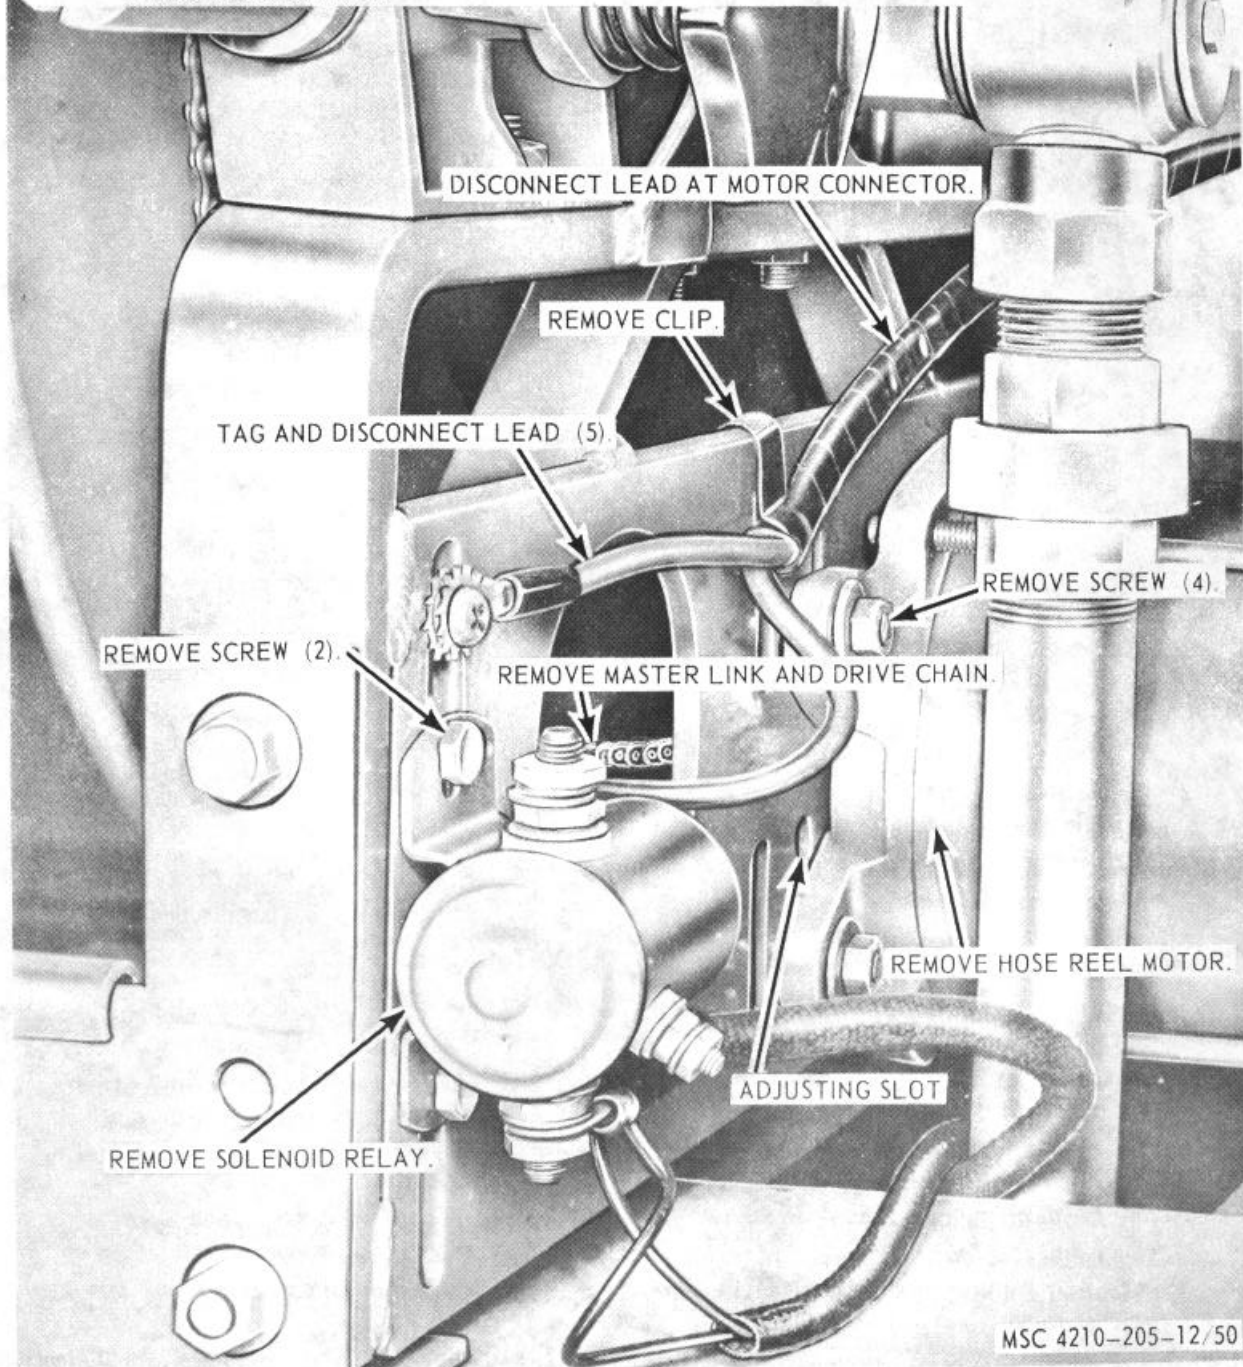

Figure 50. Hose reel motor and solenoid relay, removal and installation
a. Removal. Refer to figure 50, and remove the hose reel motor solenoid relay from the hose reel.
- (1) Clean all parts with a clean cloth dampened in an approved cleaning solvent, and dry thoroughly.
- (2) Inspect all parts for damaged or defective condition.
- (3) Inspect lamp for cracks, breaks, or burned out condition.
- (4) Replace or repair damaged or defective parts as necessary.
c. Installation. Refer to figure 50, and install the hose reel motor solenoid relay on the hose reel.
a. Removal. Refer to figure 50, and remove the hose reel motor from the hose reel.
c. Installation. Refer to figure 50, and install the hose reel motor on the hose reel.